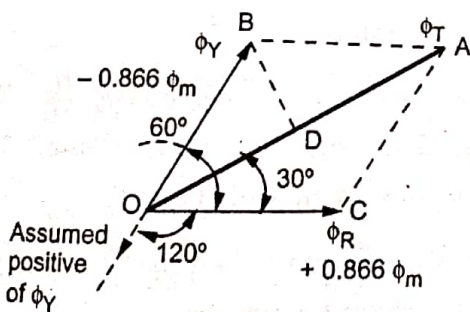

Fig. Q.54.3 Vector diagram for $\theta = 60^\circ$
- So ϕ_R is positive and ϕ_Y is negative and hence drawing in appropriate directions we get phasor diagram as shown in the Fig. Q.54.3.